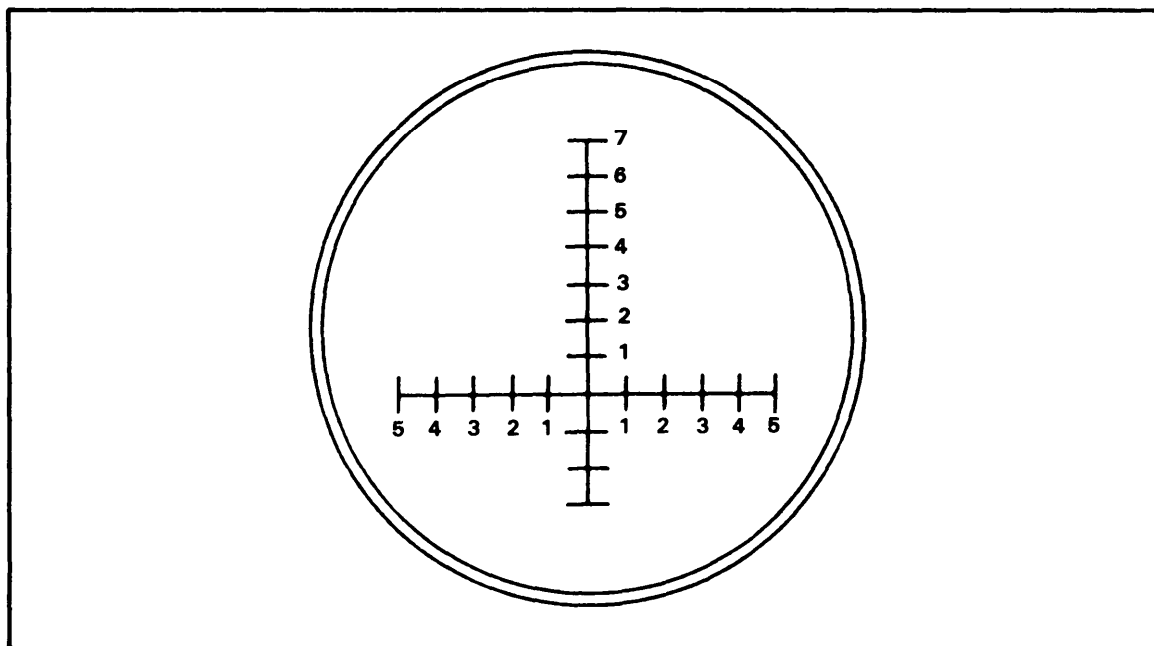
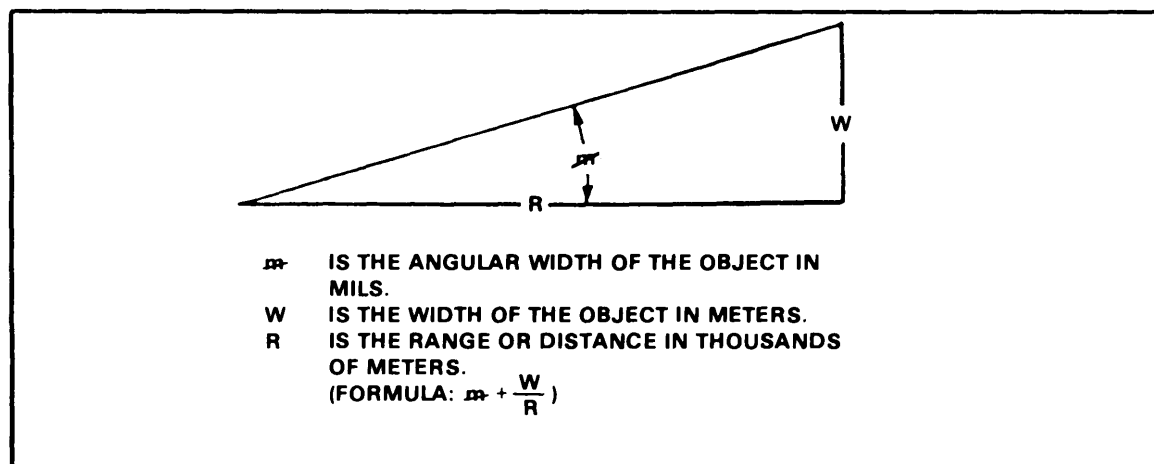

Figure 6-6. M19 binocular reticle.
Figure 6-7. Mil relation.
10-mil increments (Figure 6-6). When using binoculars to determine range, the soldier must understand the mil relation (Figure 6-7).
a. The mil(m) is the unit of angular measurement used in adjusting fire. A circle has 6,400 mils. At a distance of 1,000 meters, an object 1 meter wide measures 1 mil. Change mils to meters by multiplying the number of mils times the range (distance) in thousands of meters. Obtain the unknown width or range to an object (Figure 6-7) using a similar method.
b. The mil relation, as shown in Figure 6-7, is $\mu = \frac{W}{R}$; when μ is the angular width of the object in mils, W is the width of the object in meters, and R is the range or distance in thousands of meters.
(1) To find Width when the known Range is 4,000 meters and the object is 15 μ wide, multiply (R x μ) 4 (range in thousands) times 15 (mils). The answer is 60 (meters), or 4 x 15 = 60 meters.